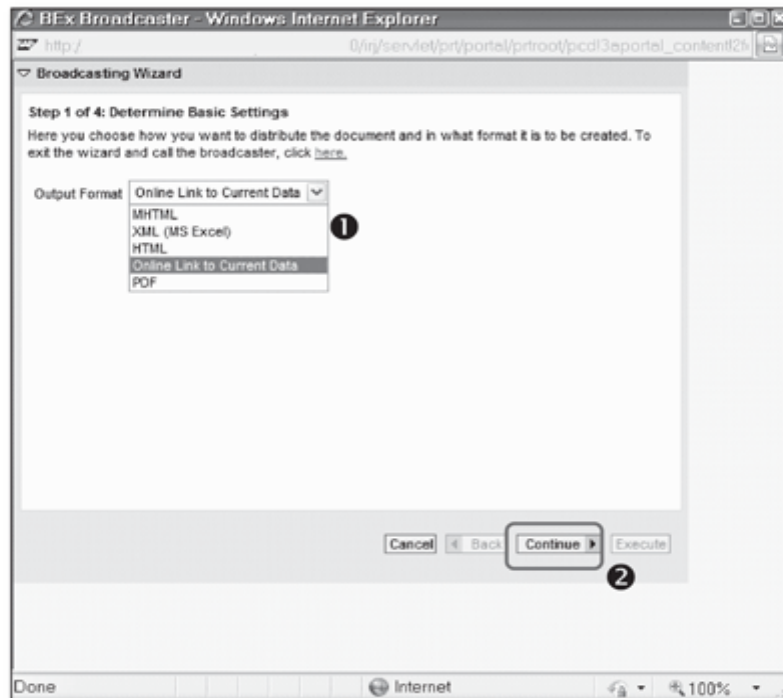

Figure 10.62 BEx Broadcaster: Determine Basic Settings
2. Select the output format for broadcasting from the options available in the drop-down (❶ of Figure 10.62), and click on the Continue button (❷) to proceed to the next screen.